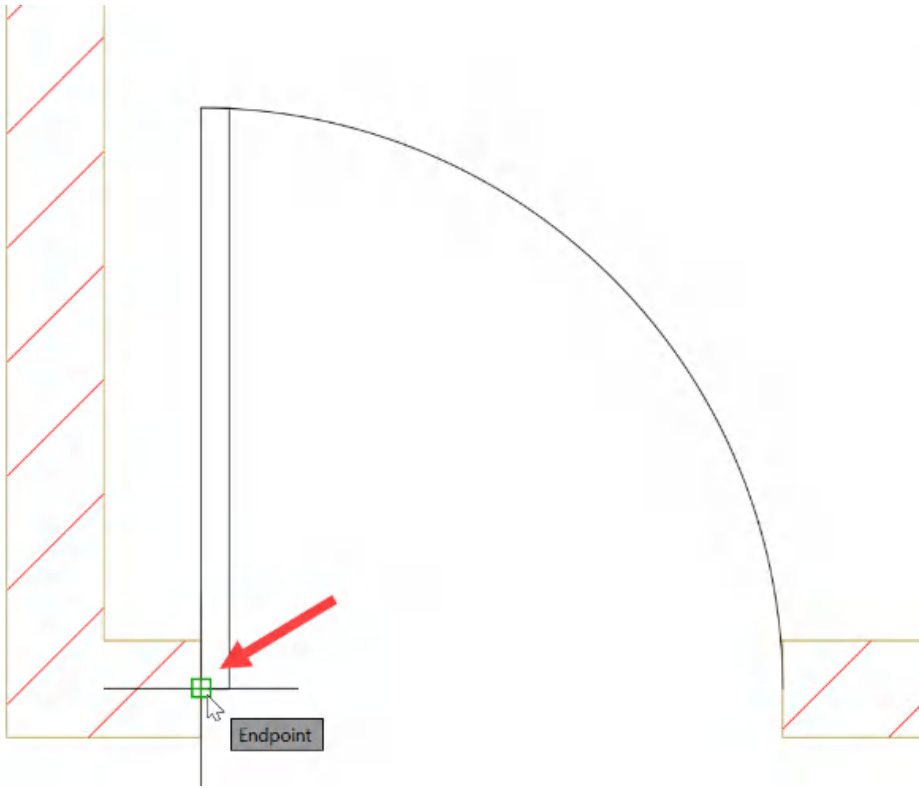

Figure 11.4: The Endpoint object snap to be used as the insertion point
4. You will be taken into the drawing to select an insertion point for your block. Select the **Endpoint** object snap, as shown in *Figure 11.4*.